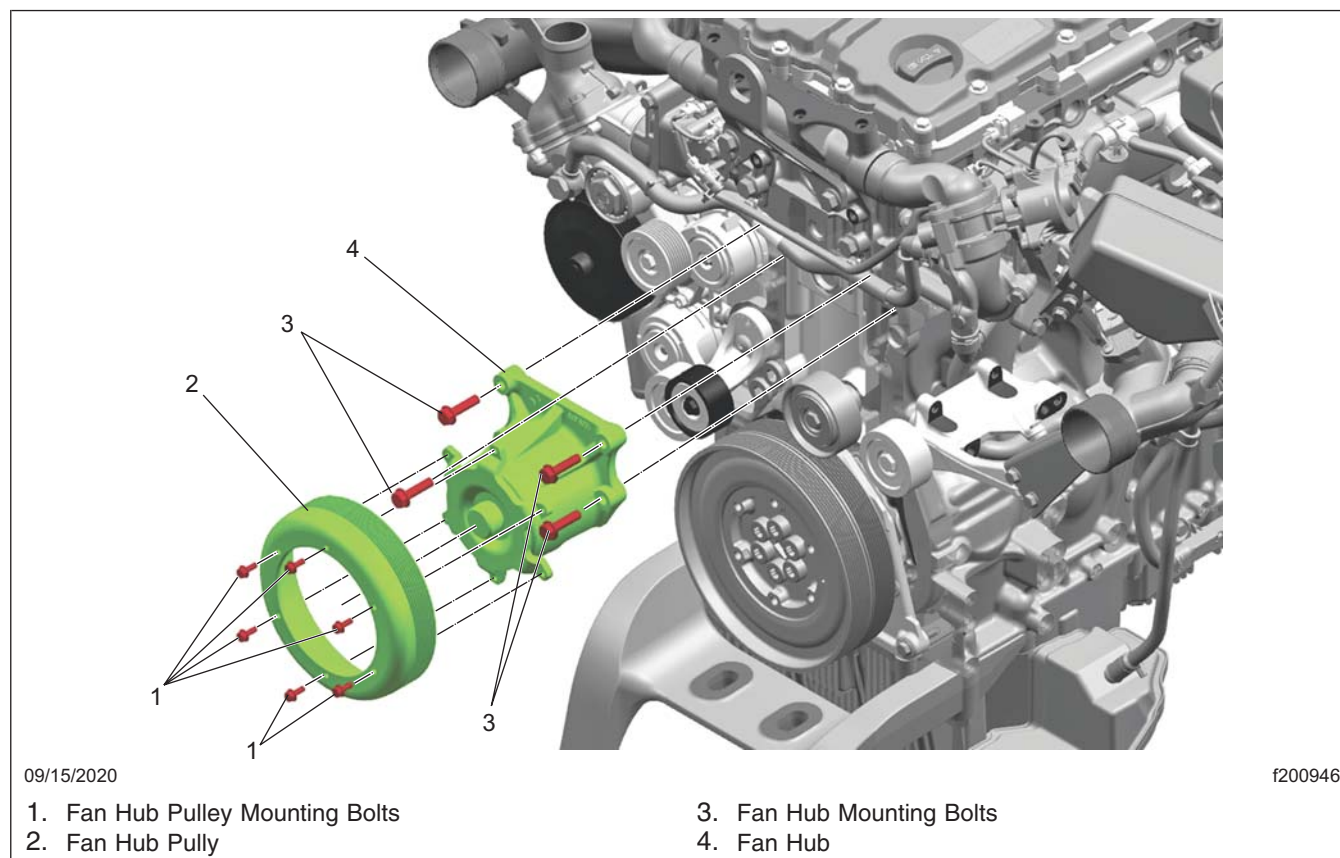
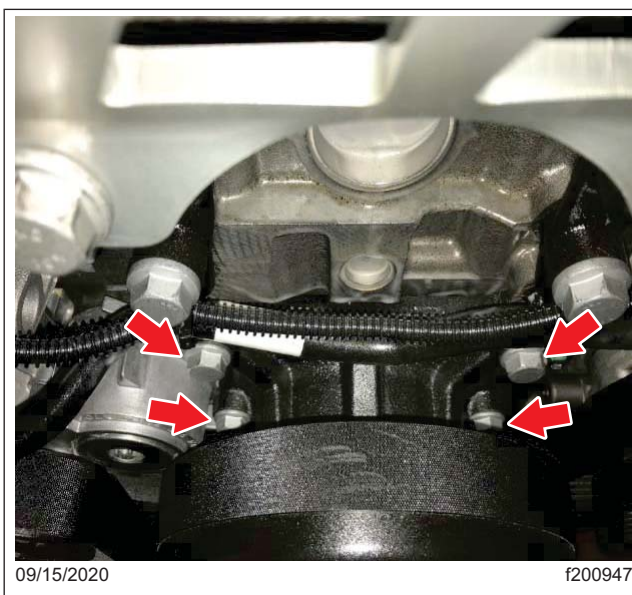

Fig. 1, Fan Hub and Fan Hub Pulley
Fig. 3, Fan Hub Mounting Bolts
5. Loosen the six fan hub pulley mounting bolts (see Fig. 1, Ref 1), but do not remove them completely.
10. Set a torque wrench to 35 lbf-ft and check all four fan hub mounting bolts. Tighten to 35 lbf-ft if needed. See Fig. 1 and Fig. 3.